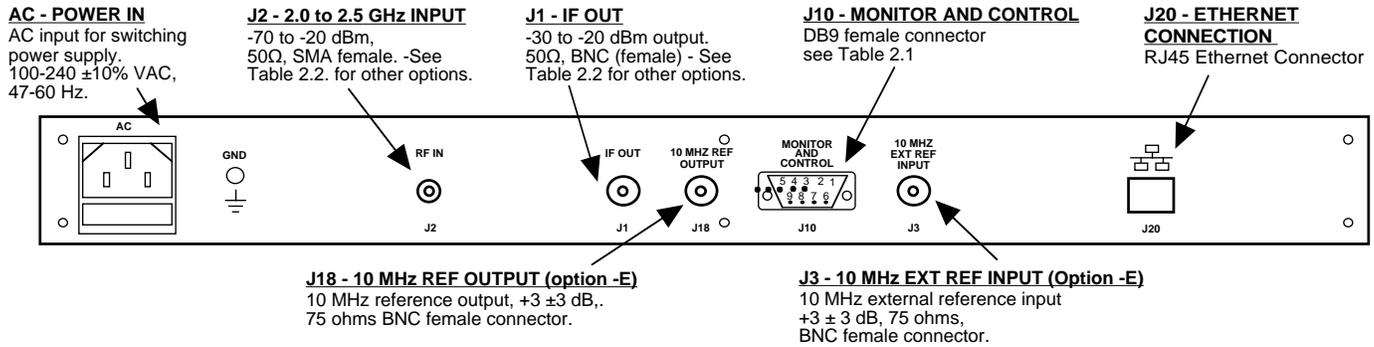

FIGURE 2.2 2016-25-300 Downconverter Rear Panel Inputs/Outputs
2.2 Rear Panel Input/Output Signals - Figure 2.2 shows the input and output connectors on the rear panel.
1. Connect a -70 dBm to -20 dBm signal to RF In, J2 (Figure 2.2).
2. Connect the IF OUT, J1, to the external equipment (Figure 2.2).
Alarm indications appear on the LEDs (see figure 2.2).